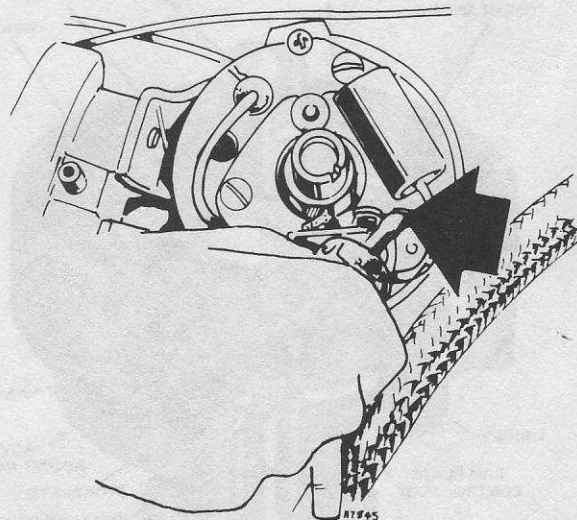

Fig. 4.6 Adjusting the breaker point gap (Sec. 3)
- 7 Adjust the contact gap by inserting a screwdriver in the notched hole in the contact breaker plate. Turn clockwise to increase, and anticlockwise to decrease the gap. When the gap is correct, tighten the securing screws and check the gap again (see Fig. 4.6).